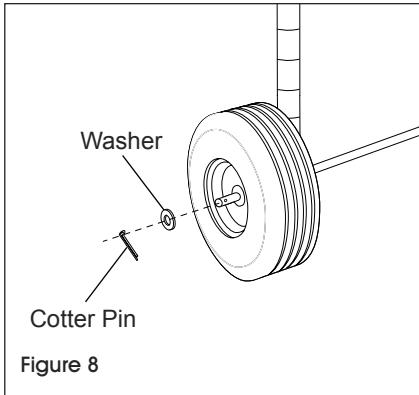

Figure 8
4. Slide another washer over axle. Insert cotter pin in hole in axle. Bend cotter pin with pliers to secure. (See Figure 8)